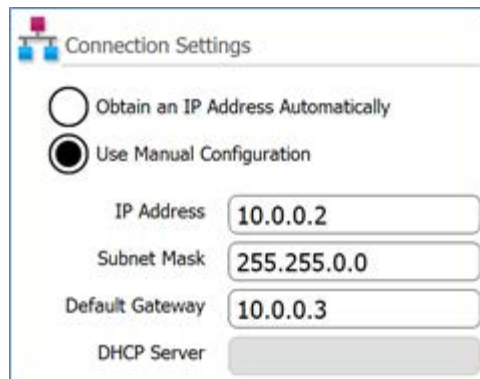

Figure 12 Connection Settings
- d In the IP Address, Subnet Mask, and Default Gateway fields, enter the values shown in Figure 12. Press **OK**.